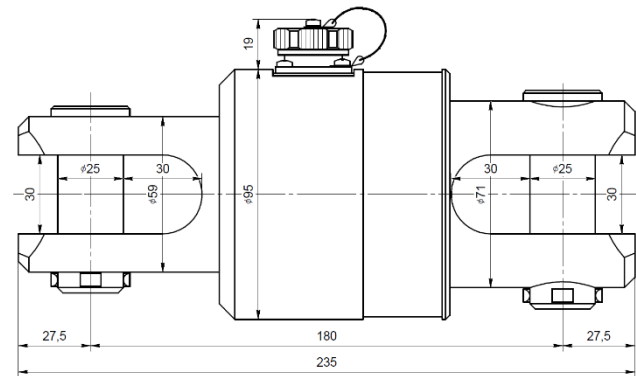

Figure 1. Example of the DN-130V overall dimensions
- Basic dimensions at the processing facilities correspond to the dimensions of the DN-130V (see Fig. 1);